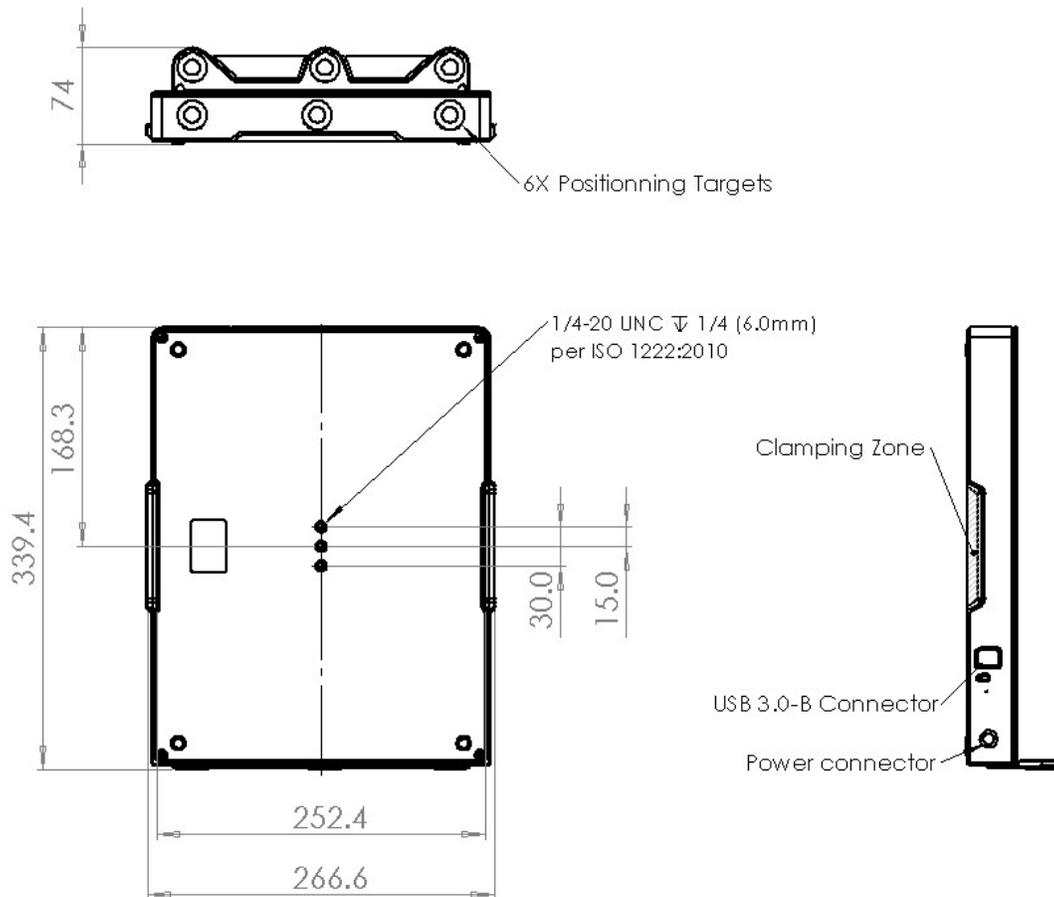

Figure 13 - MetraSCAN 3D-R Calibration Artifact Installation Drawing
- The C-Track requires line-of-sight to all 6 positioning targets (identified in Figure 13) during the calibration process.
The anchoring method should not interfere with the USB cable and power connector (identified in Figure 13) or apply any strain to the connector.
The artifact has four rubber feet that allows the plate to rest on a flat surface. It is possible to clamp the artifact for additional security and stability. Use soft tip point or Nylon Set Screws in designated clamping zone on both sides of the artifact (Refer to Figure 13).